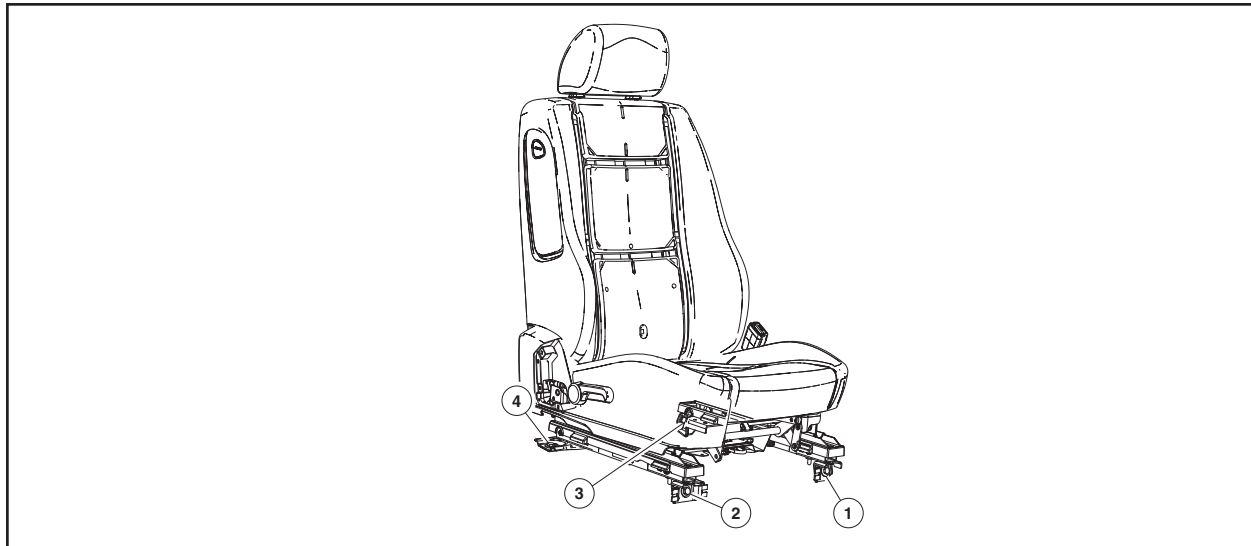

FIGURE 24
2. Install by hand all four seat track-to-floor bolts, then tighten. See Figure 24.